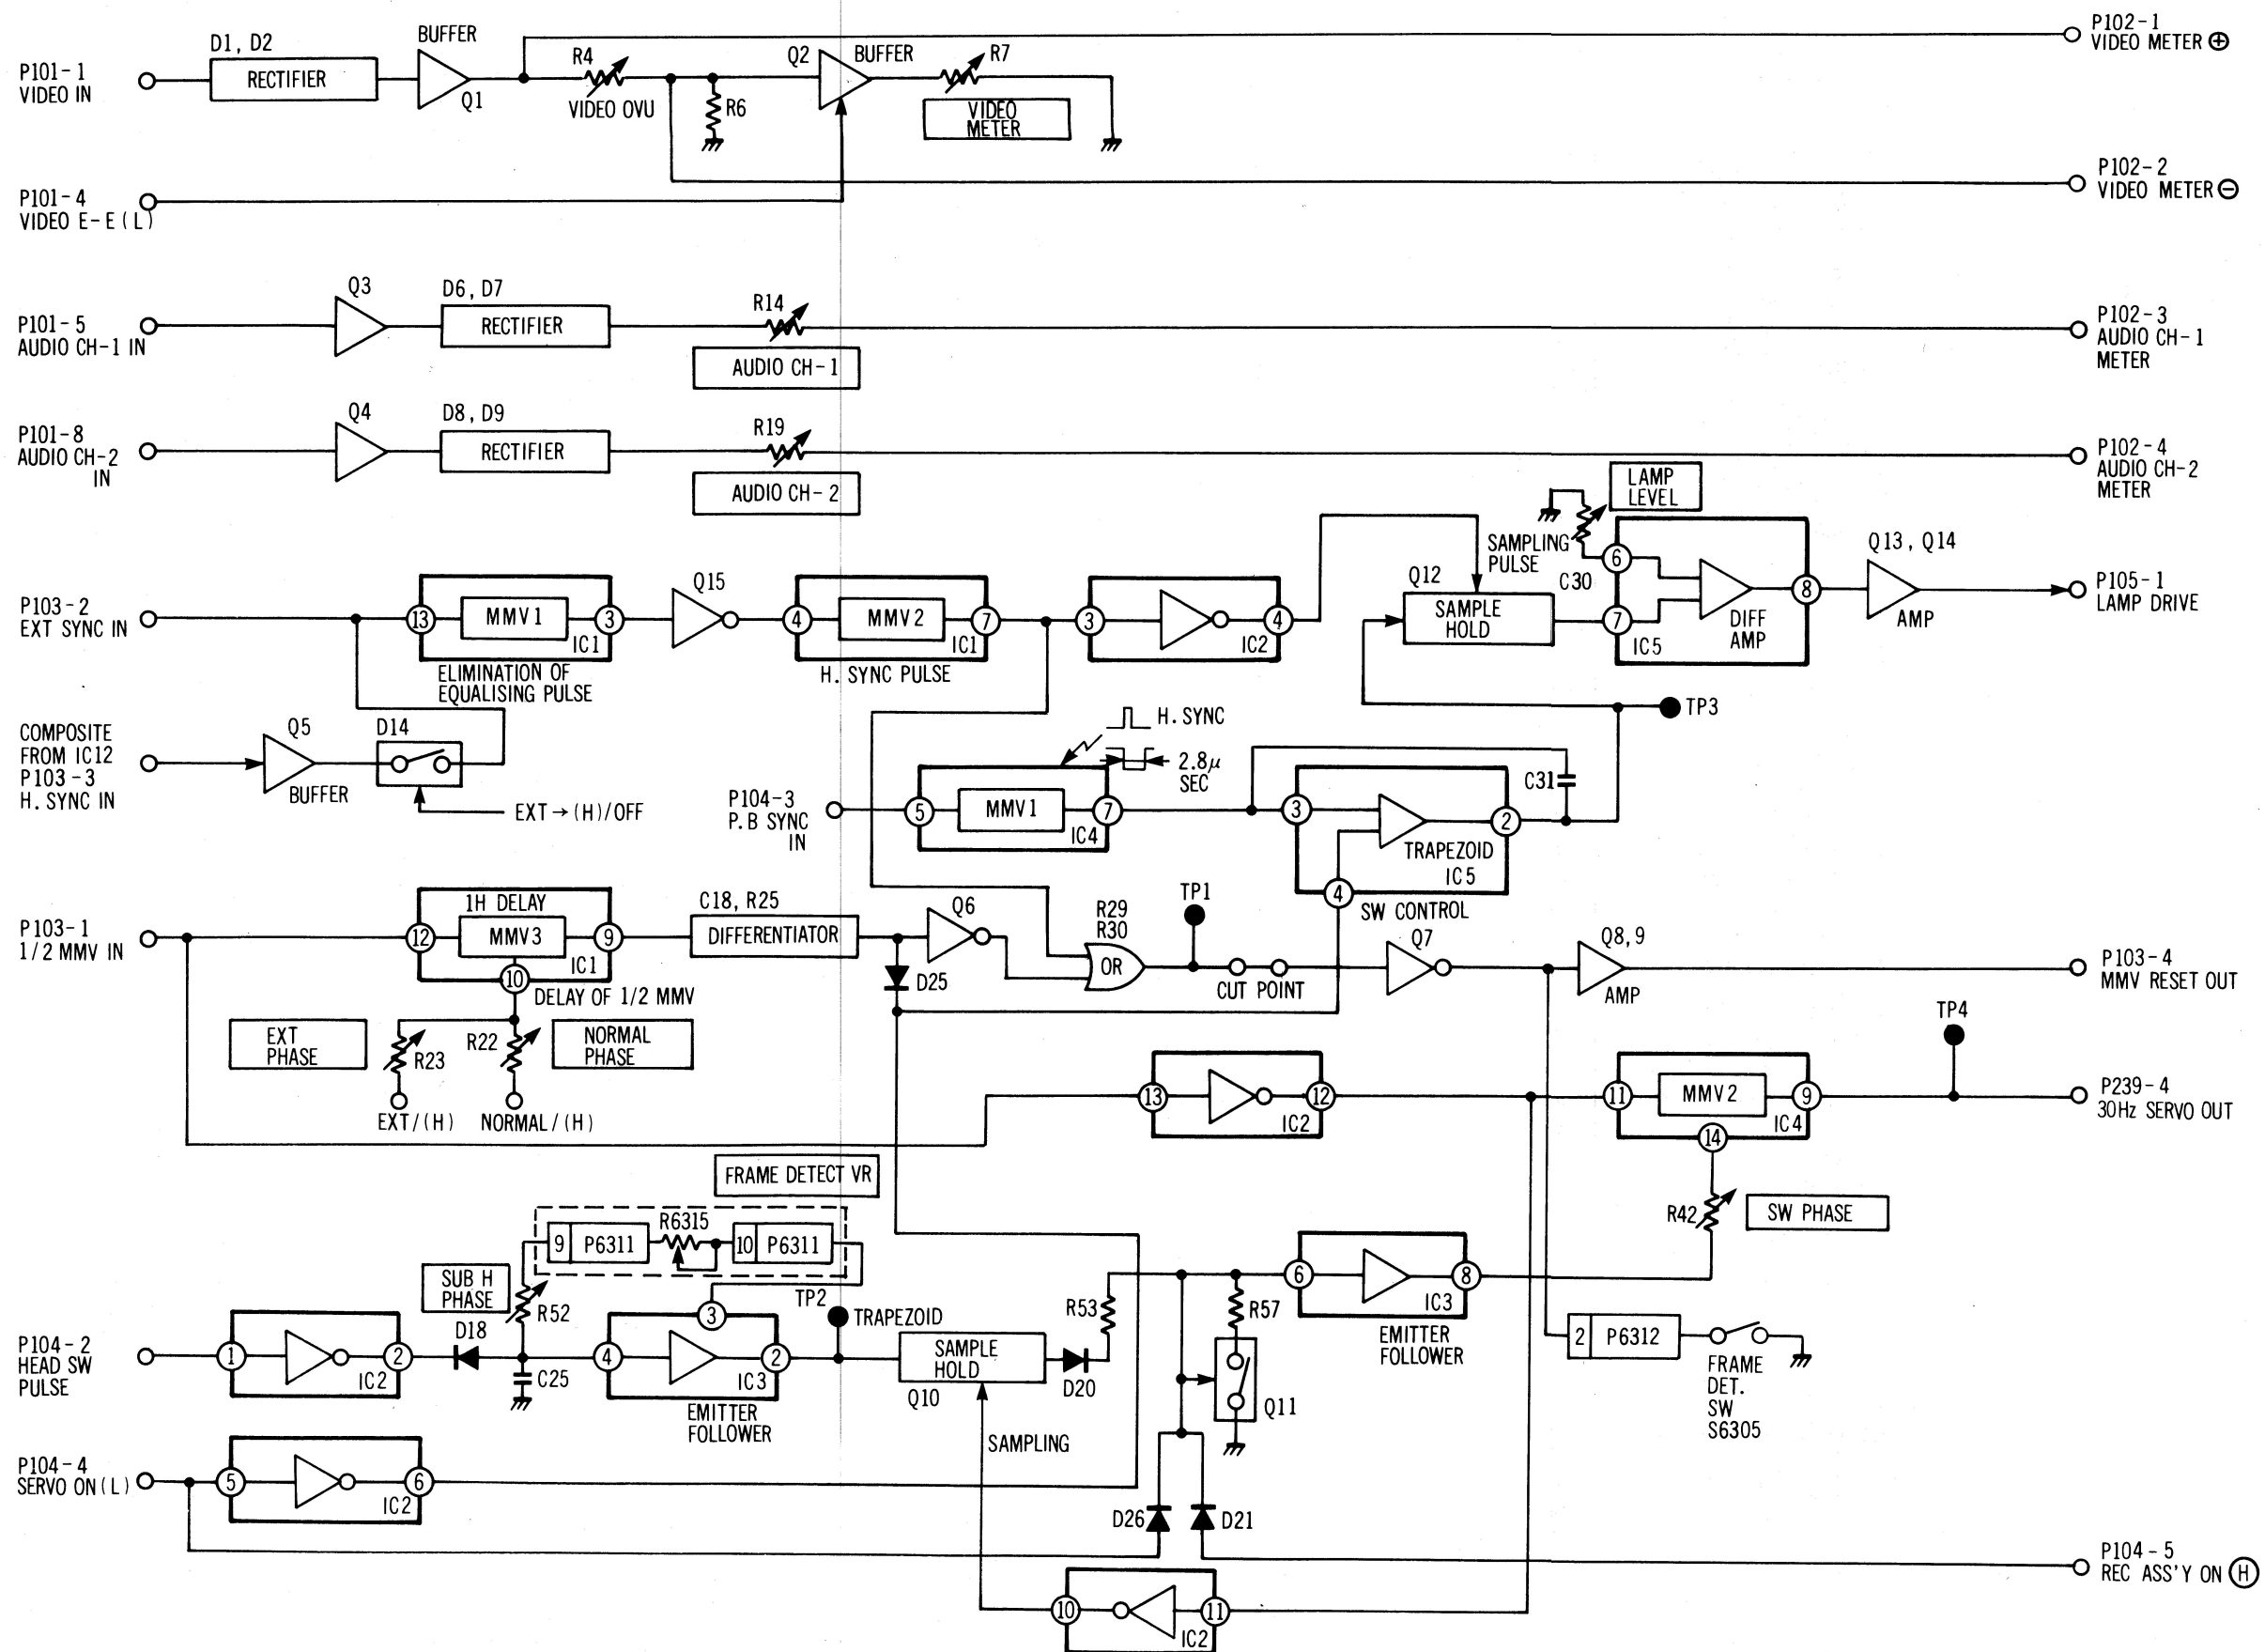

Figure 2-187
Therefore, any change in phase between incoming video sync (which makes the 1/2 M.M.V. 30 Hz, and in turn the sample pulse) and the head position (which controls playback video H phase) will cause a change in D.C. voltage. This change will alter the delay of IC4 M.M.V.2, which is in the servo reference path. The variable edge of this M.M.V. output is the trigger for the 50/50 duty cycle M.M.V. in the servo, IC12 pin (5). Refer to Figure 2-187, page 144.
R42 adjusts the pulse width at TP4, Figure 2-187 for 140 μ seconds during recording R52 adjusts pulse width at TP4 for 140 μ seconds during playback. Q11 and R54-R57 network inhibits H phase Adjustment during record.
The frame lamp should be on before editing is performed. If the frame lamp is off, H phase, R6315, ought to be adjusted. See Figure 2-187.